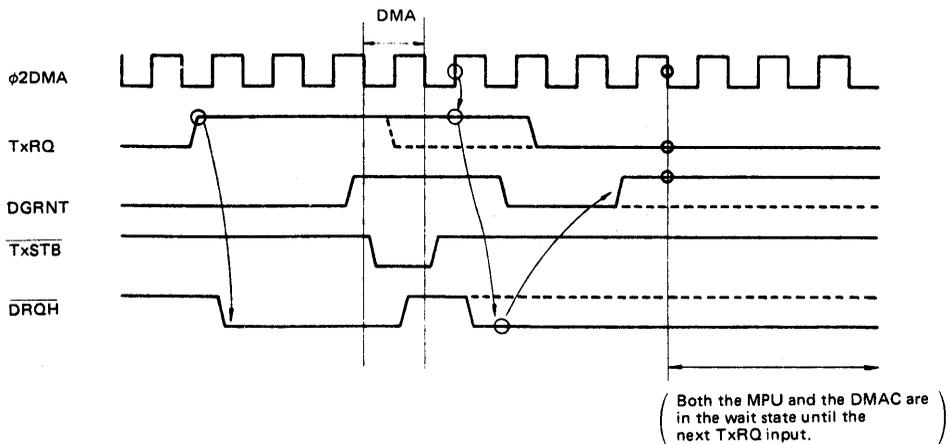

Figure 15 Extraordinary TxRQ Input (2)
- (2) In the case where TxRQ is not reset to "Low" though \overline{TxSTB} has been driven. In this case, unless TxRQ returns to "Low" by the time ϕ_2 DMA rises after \overline{TxSTB} has risen to "High", it is considered as a new I/O request, which leads the above-mentioned operation ①,② → . If TxRQ falls to "Low" immediately after that, the same state as (1) happens (Fig. 15).